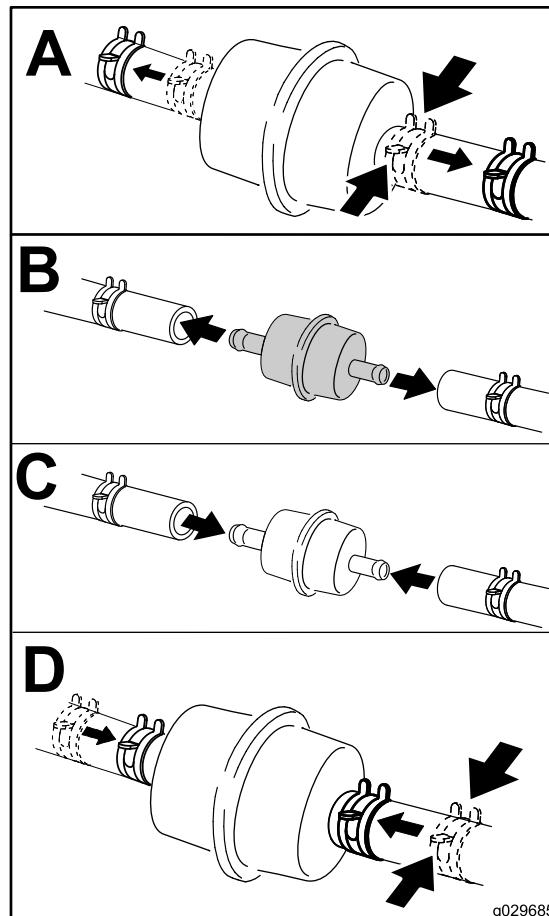

Figure 55
4. Replace the fuel filter (Figure 55).